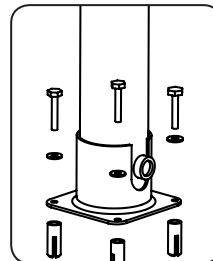

FIGURE 3
2. Use the base plate/lower tube to mark the position of the mounting holes to be drilled into concrete/masonry for bolts. FIGURE 3